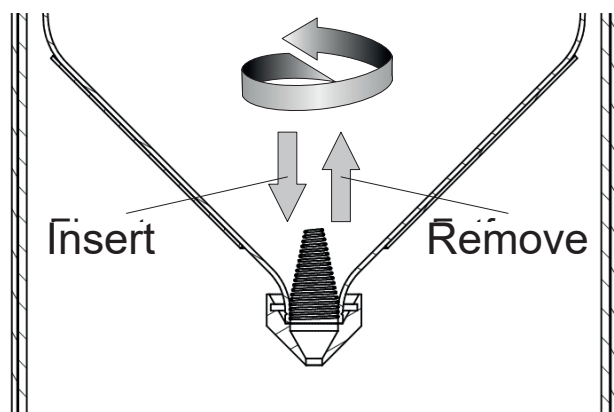

Fig. 10
- Insert the enclosed dirt trap spiral into the funnel (Fig. 10).